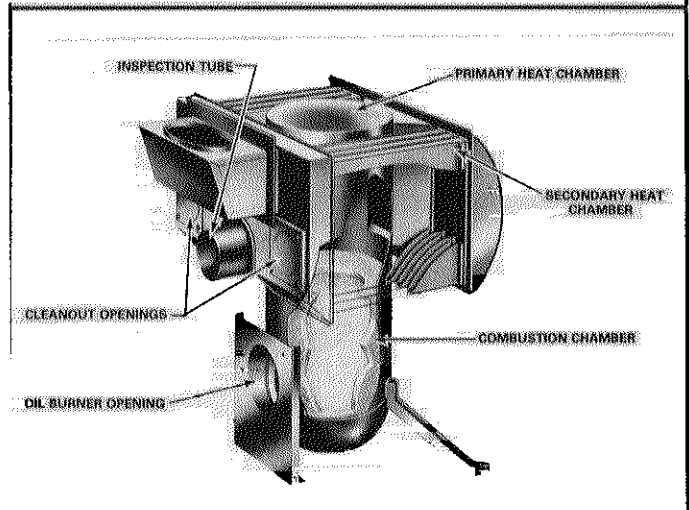

FIGURE 6
**5 - Heat Exchanger And Combustion Chamber (Figure 6)**